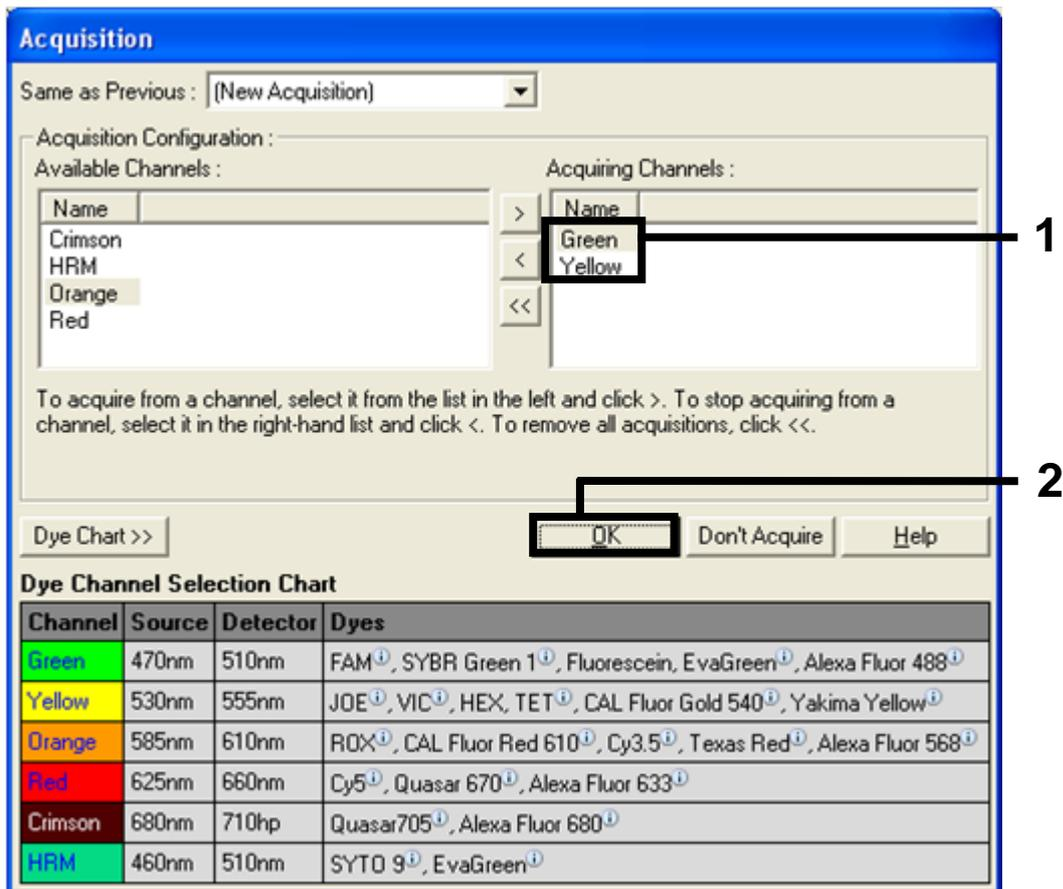

Figure 28. Acquiring at cycling step of 60°C. (1 = Selected channels, 2 = "OK" button).
10. Set Green and Yellow as acquiring channels by selecting the ">" button to transfer these from the "Available Channels" list. Click "OK" (Figure 28).